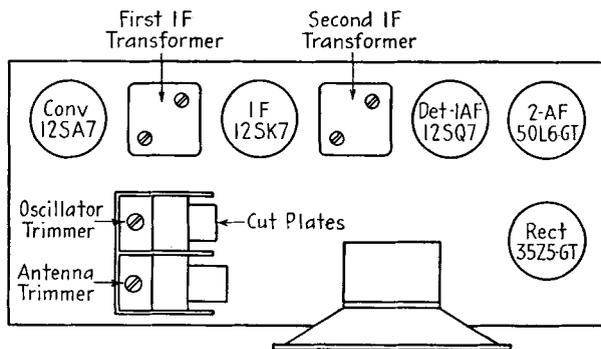

FIG. 23-5. Layout diagram of a typical small receiver showing trimmer locations.
the following suggestions will be helpful. The IF trimmers are usually located in the IF cans. Figure 23-5 shows a common arrangement. Look for the detector, IF, and converter tubes, and visualize the block diagram of the superheterodyne receiver. The second IF can is between the detector and the IF tubes. The first IF can is between the IF and the converter tubes.
**Location of oscillator trimmers and padders.** The two controls for the oscillator-tuned circuit are the 600 or low-frequency padder, and the 1,500 or high-frequency trimmer. If the tuning gang condenser is of the variety with cut plates for the oscillator section, as in Fig. 23-5, the oscillator trimmer may be easily located. Receivers using this type of condenser usually are not equipped with a 600 padder.